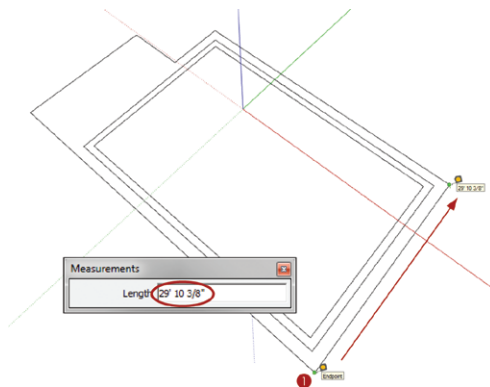

Figure 17.22 Measure the overall length of the building outline.
1. Activate the Tape Measure tool. Find a known dimension. Measure the overall distance of the building and remember that distance (Figure 17.22).